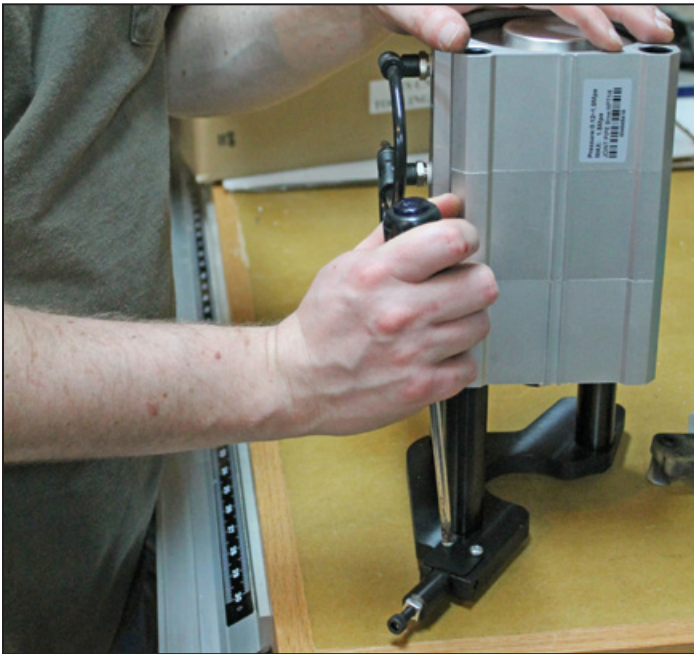

Figure 12
9. Move the Leg Bracket to the vertical position (see **Figure 12**).